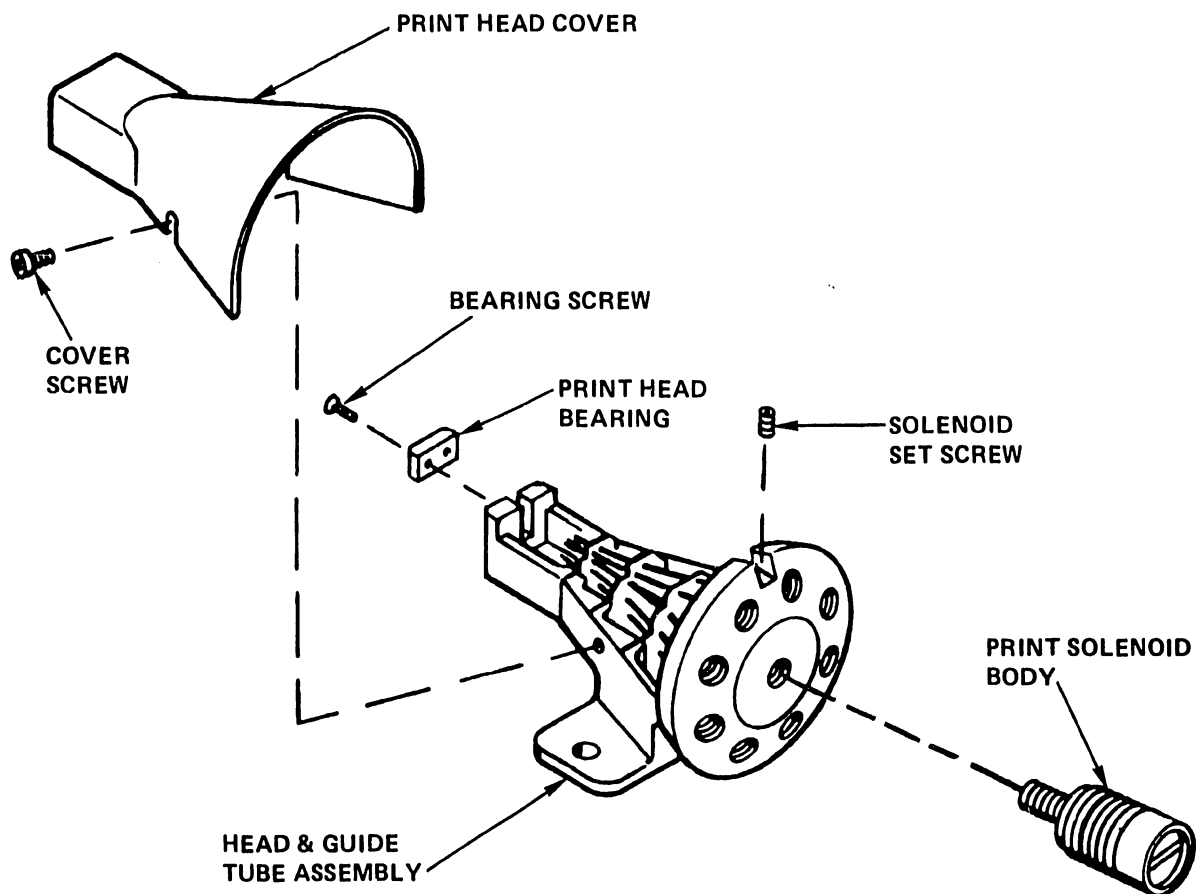

Figure 5-35. Print Head Assembly
3. Remove the print head cover. See Figure 5-35.